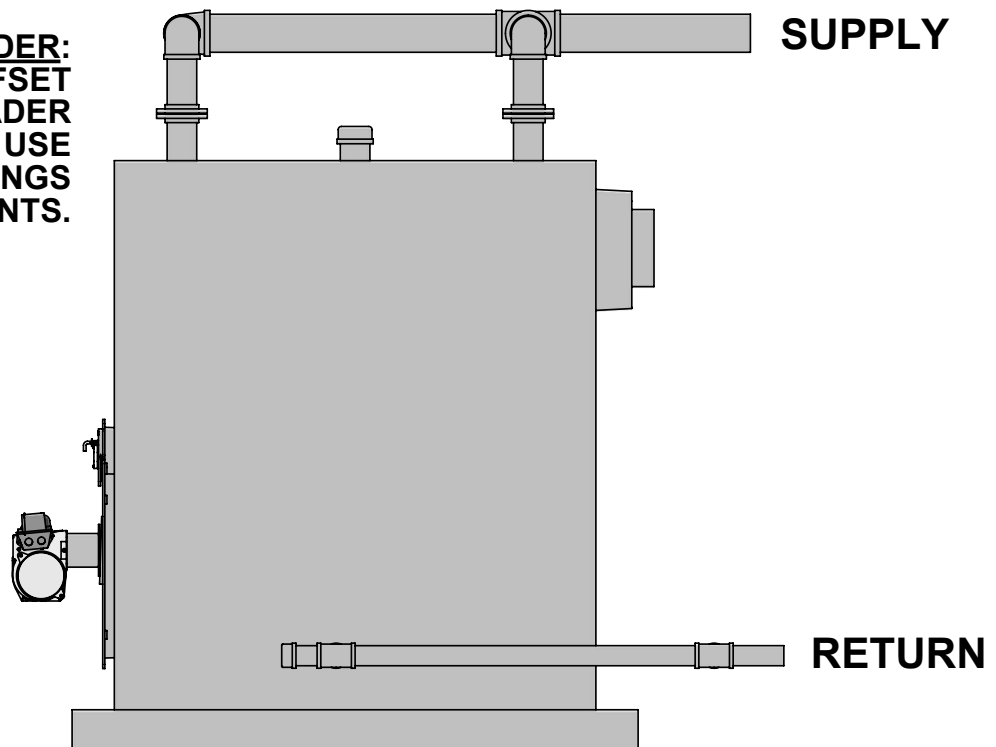

Figure 3.1: Piping Detail, Supply and Return Connections
1. Always locate the Supply and Return connections as shown in Figure 3.1 and other illustrations in this manual.